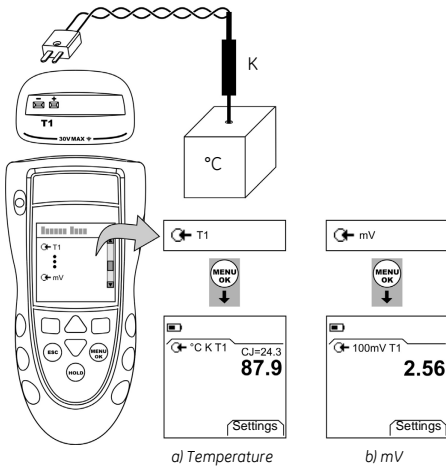

Figure 1: Example configuration - To measure the temperature or mV values of a thermocouple
Attach the thermocouple wires to the applicable thermocouple mini-connector (Figure 1). The wider blade is the negative.
1. Connect the instrument (Figure 1) and, if necessary, adjust the *Set Up* (Table 1).